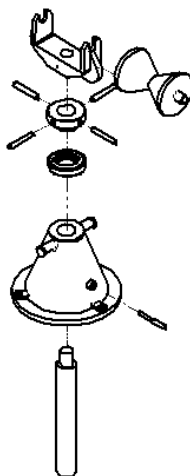

Figure 12-25 Exploded view
5. Place the view on the drawing sheet; an exploded view is shown in Figure 12-25.